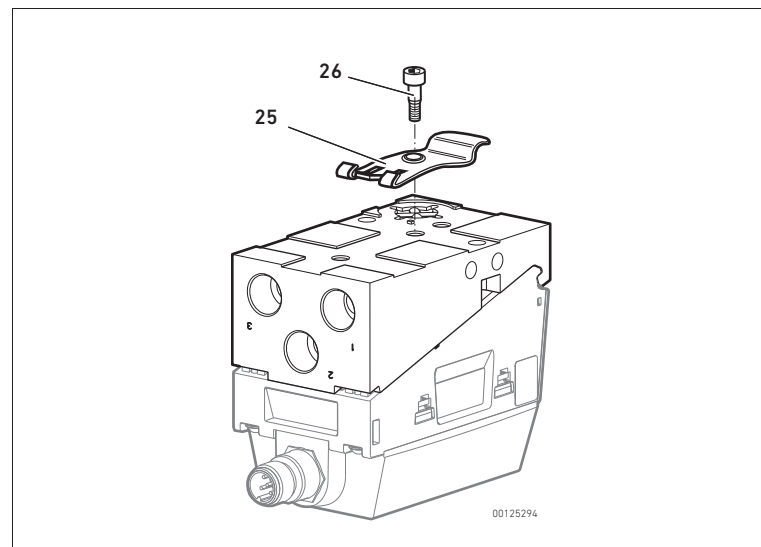

Fig. 8: Mounting kit for rail assembly
- 1 mounting plate (25)
- 1 cylinder head screw (WS 4) (26), tightening torque: 1 Nm
1. Assemble the mounting kit as shown in Fig. 8. The mounting panel (25) catches in the recesses and can thus be aligned in three directions at right angles to the device.